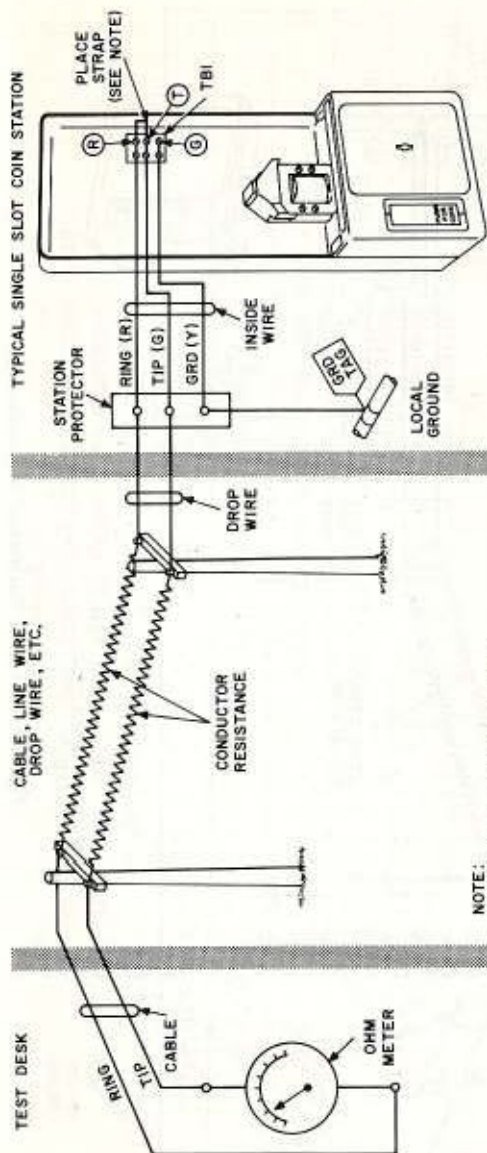

Fig. 16 — Loop Resistance Measurement
- Connections for loop and ground resistance measurements for a typical single slot coin station are shown in Fig. 16 and 17, respectively. See Table G for use of Dial Long Line equipment, and Table H for maximum allowable loop ranges.